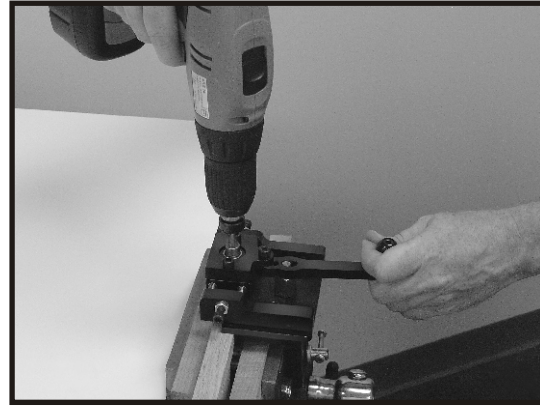

FIG. 11
1. With one hand holding the drill, insert the drill into the drill guide bushing. Place your other hand on the handle for the lever. As you pull the trigger on the drill begin moving the lever from side to side (Fig. 11). You should begin milling the mortise with very little to no downward pressure on the drill as you slide the lever from one end of the mortise to the other. This will give a cleaner cut to the top edge of the mortise. Once past the surface you can apply a little more downward pressure as needed. Continue milling with drill running and moving the lever from side to side until the desired depth is accomplished.